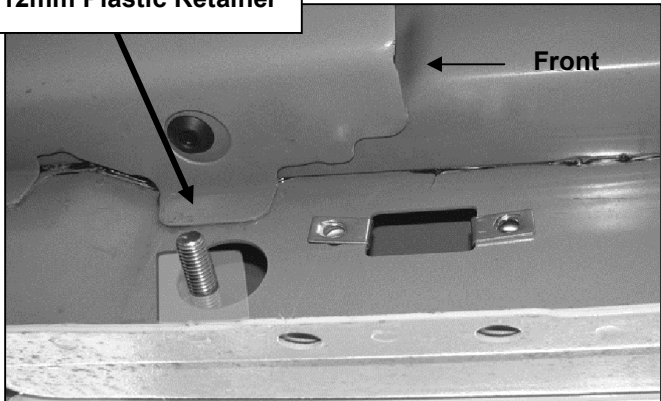

Fig 2B
- Insert (2) 10mm Clip Nuts, (with the nut portion to the inside), into the rectangular opening. Line up the threaded nut with the factory round holes, **(Figure 1)**. Next, partially thread (1) 12mm Plastic Retainer onto (1) 12mm Bolt Plate, **(Figure 2A)**. Insert the Bolt Plate into the large round hole, **(Figure 2B)**. Once inserted, thread the Plastic Retainer onto the threaded end of the Bolt Plate until it is flush against the body panel. **NOTE:** When properly installed, the Plastic Retainer is designed to prevent the Bolt Plate from falling into the body panel during Bracket installation.